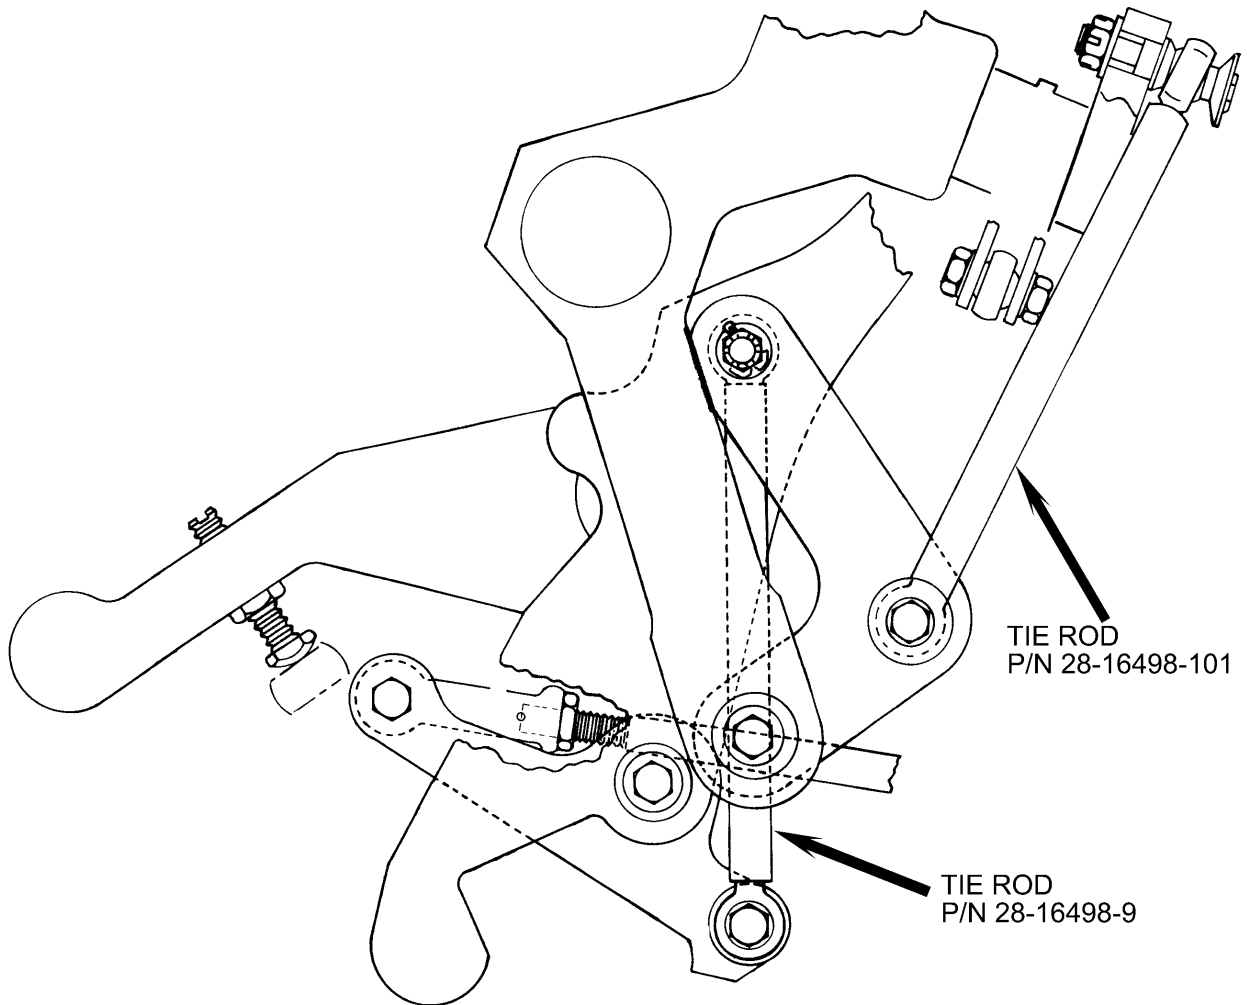

Figure 1. Tie Rods, P/N 28-16498-9 & 28-16498-101
- B. Remove the tie rod, P/N 28-16498-9 and /or 28-16498-101, from the throttle correlator assembly (Refer to Figure 1).